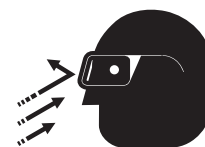

Figure 25. Direction Control Switch (REVERSE)
2. Place the **Direction Control Switch** to the **REVERSE** position (Figure 25). This will mix the water and cement into slurry.